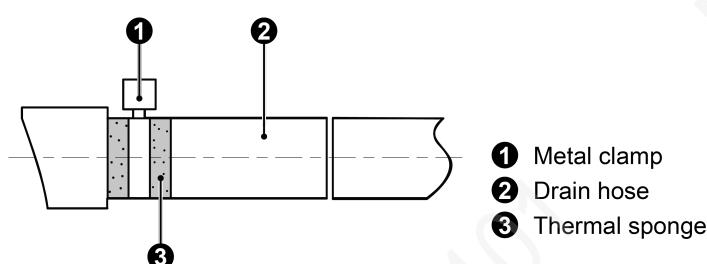

Fig.4.3.2
- (1) Insert the drain hose into the drain hole and tighten it with tapes, as shown in Fig. 4.3.2. Model with water pump will be provided with drain hose, while other models please prepare the drain hose by yourself.
- (2) Tighten the pipe clamp, with the distance between screw nut and hose smaller than 4mm.